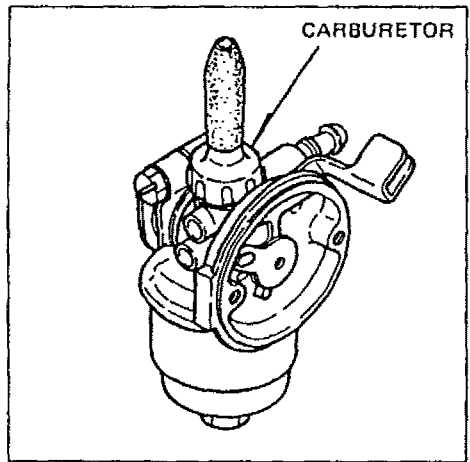

Figure 9
- a. Your motor has a fixed high speed jet. The Idle Adjustment has been preset at the factory. (See Figure 9).